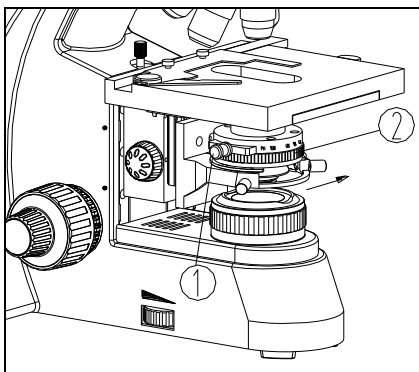

Fig. 29
1. Keep phase contrast flapper face up (upward the face with word), insert it from left to right into condenser flapper socket as the direction of the arrow pointed (see Fig. 29).